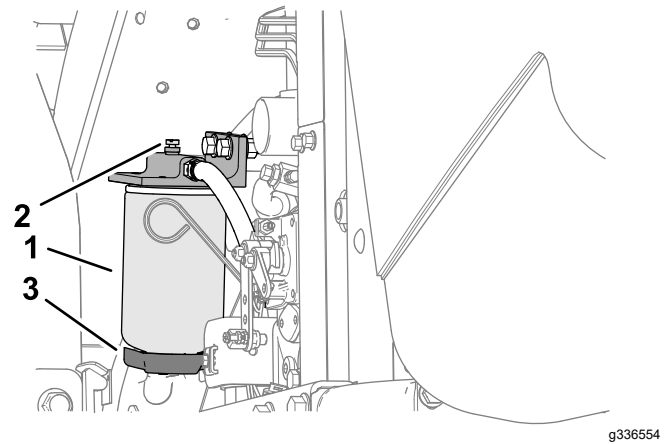

Figure 66
4. Loosen the drain valve on the bottom of the filter canister (Figure 66).
3. Clean the area where the filter canister mounts (Figure 66).